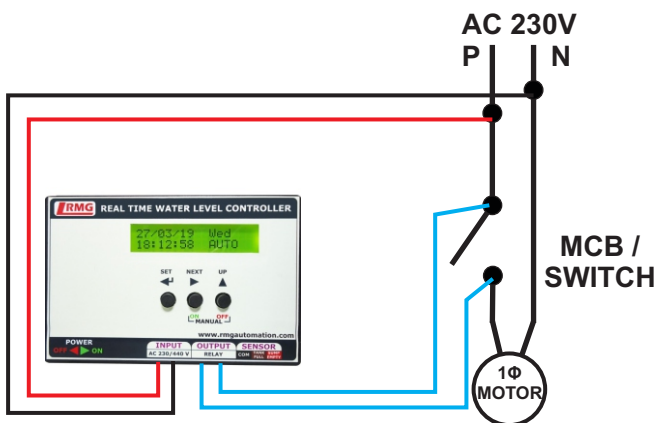

Figure1: 1Φ SWITCH/MCB
Step 2: As per the model purchased, check the label and connect AC supply (230V / 440 V) to red and black wire of timer refer figure 1.
Step 3: Connect blue pair wire to the switch/MCB of the motor in parallel as shown in figure 1.